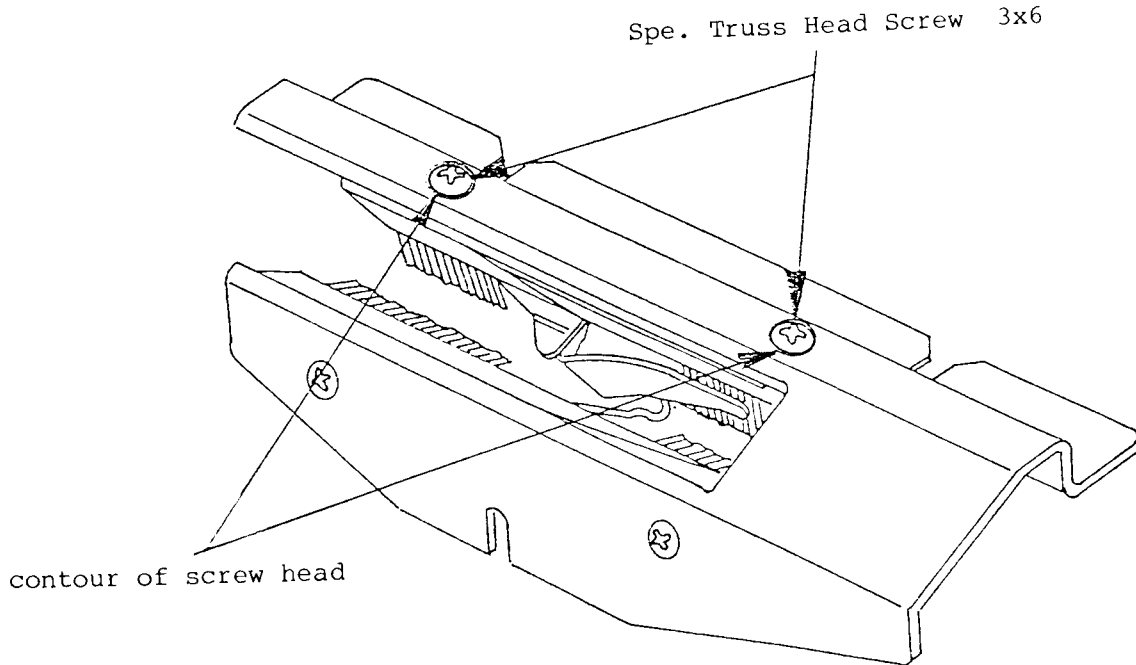

Fig. 10
- a) Mark the contour of the screws (3x6) fixing the Yarn Feeder as in fig. 10.